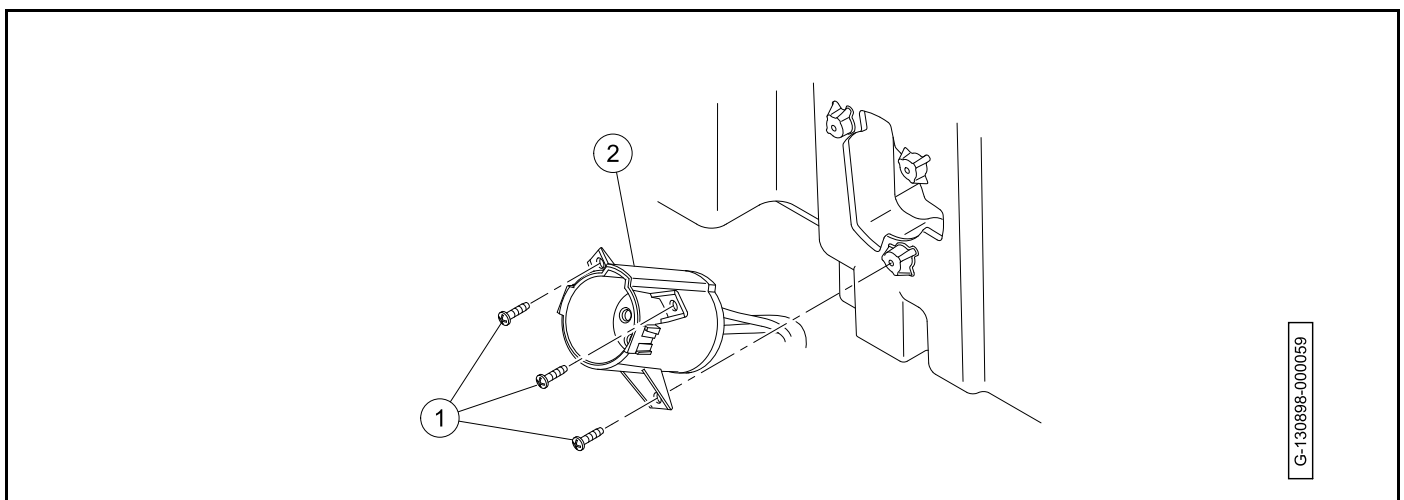

Figure 13-4
5. Disconnect the 10-gauge black wire (2) from the controller B- terminal.
6. Disconnect the light blue wire from light blue wire (3) on the main harness.
7. Remove the three screws (1) that secure the charger receptacle (2) to the bucket (**Figure 13-4, Page 13-3**).